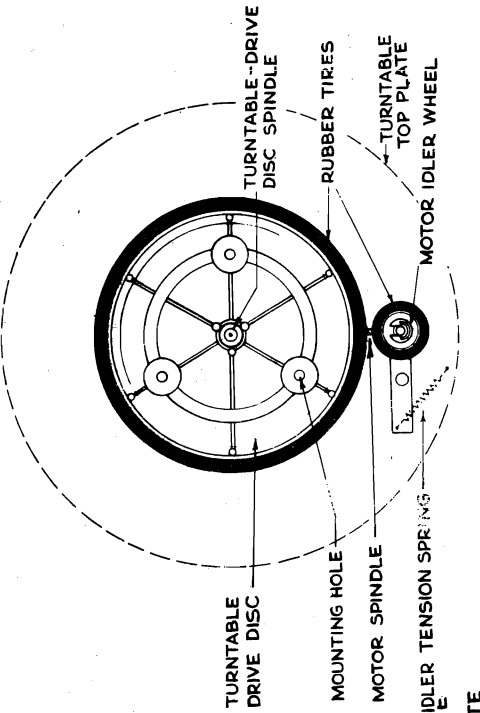

FIG. 3--RECORD DISCRIMINATOR
- (d) Adjust the short wave oscillator trimmer (Illus. D., Fig. 3 & 4) for maximum output. If two peaks are obtained use high frequency (minimum capacity) peak.
- (e) Adjust short wave antenna trimmer (Illus. E., Fig. 3 & 4) while rocking gang condenser back and forth through the signal until maximum output is obtained. If two peaks can be obtained use low frequency (maximum capacity) peak.